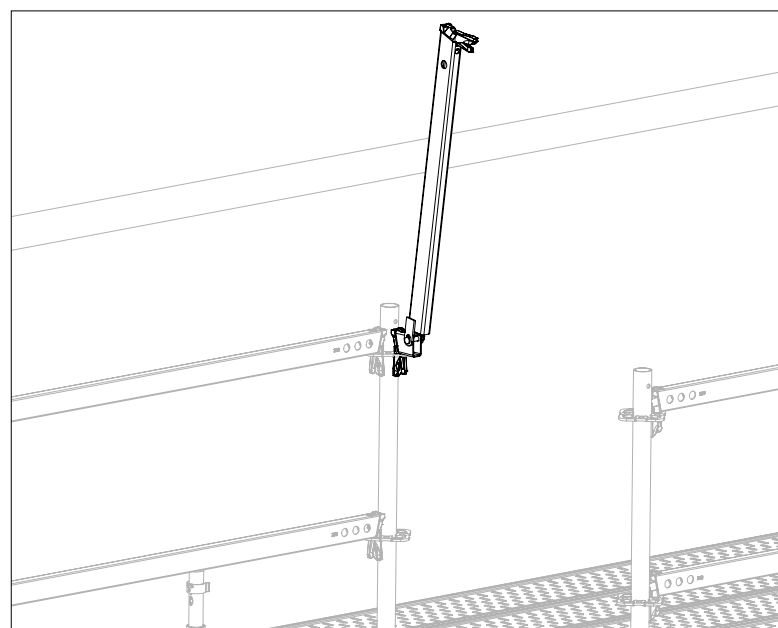

Fig. A5.11a
1. Knock out the wedge on the swivel part. (Fig. A5.11a)